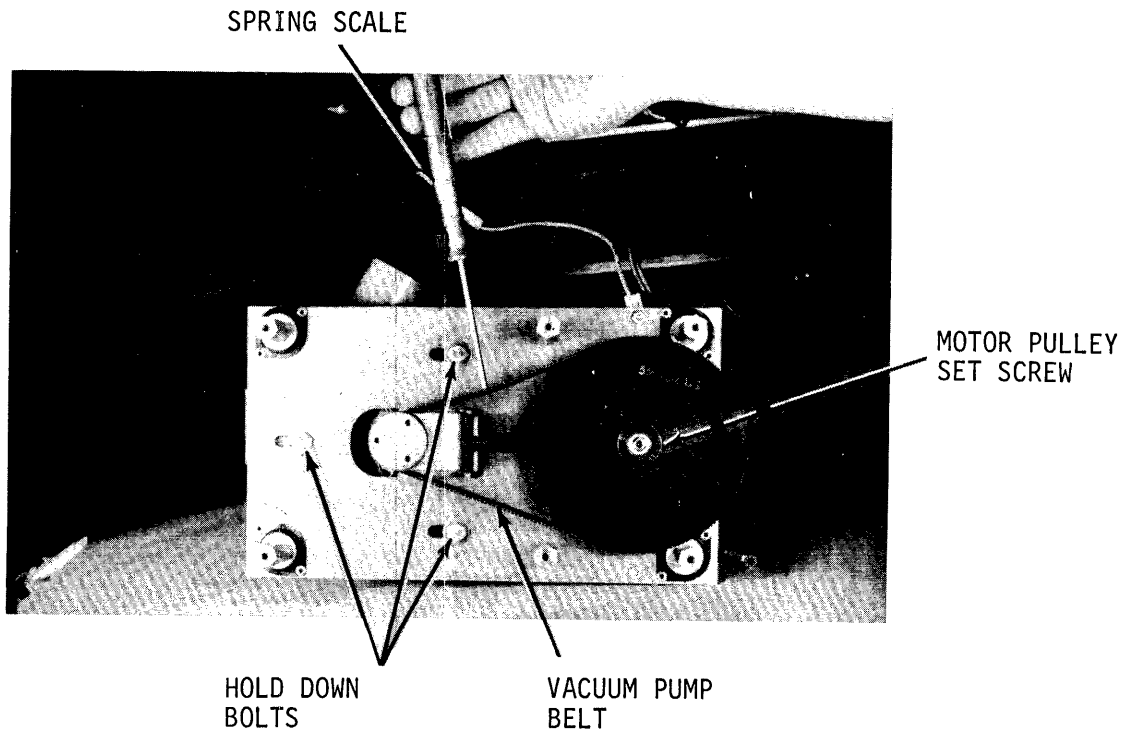

Figure 6-13. Vacuum/Blower Motor Belt Tension Adjustment
- g. Using a 7/16" open-end wrench, LOOSEN the three bolts holding the pump assembly in place, figure 6-13.